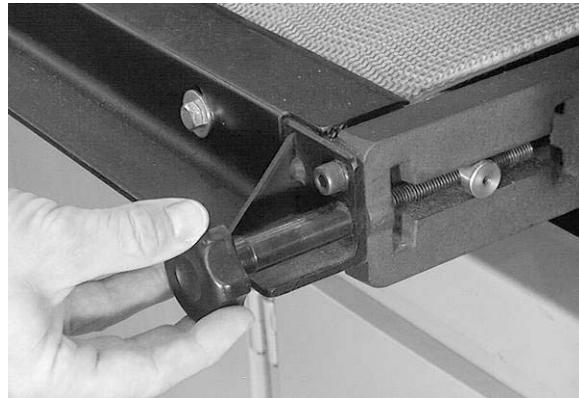

Figure 20
Conveyor belt tension and tracking adjustments may occasionally be necessary during break-in and normal operation to compensate for belt stretching. Adjust the tension of the conveyor belt by turning the knobs (Fig. 20) clockwise to increase tension, counterclockwise to decrease tension. The belt should have just enough tension to move the material without slipping on the drive roller.
1. On the side of the conveyor toward which the belt is drifting, tighten the knob 1/4 turn (Fig. 20) to shift the belt to the opposite direction.